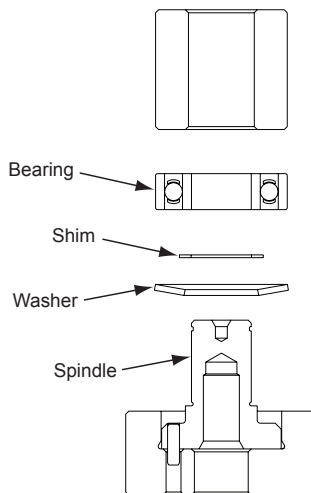

Figure 3
2. Place the Washer on the Spindle shaft with the curve of washer facing out so that the outside diameter of the washer will contact the outer diameter of the Bearing. Lay the Shim on the shoulder of the Spindle. Place the Bearing (one seal) on the Spindle with the seal side toward the Washer. NOTE: Make sure that both the inner and outer races of the Bearings are supported by the Bearing Press Tool when pressing them into place. Press the Bearing onto the shoulder of Spindle using the T-2B Spindle Bearing Pressing Tool Top as shown in Figure 3.
4. Snap the Retaining Ring (not shown in Figure 3 or 4) onto the Spindle Assembly making sure it is completely snapped into the groove.